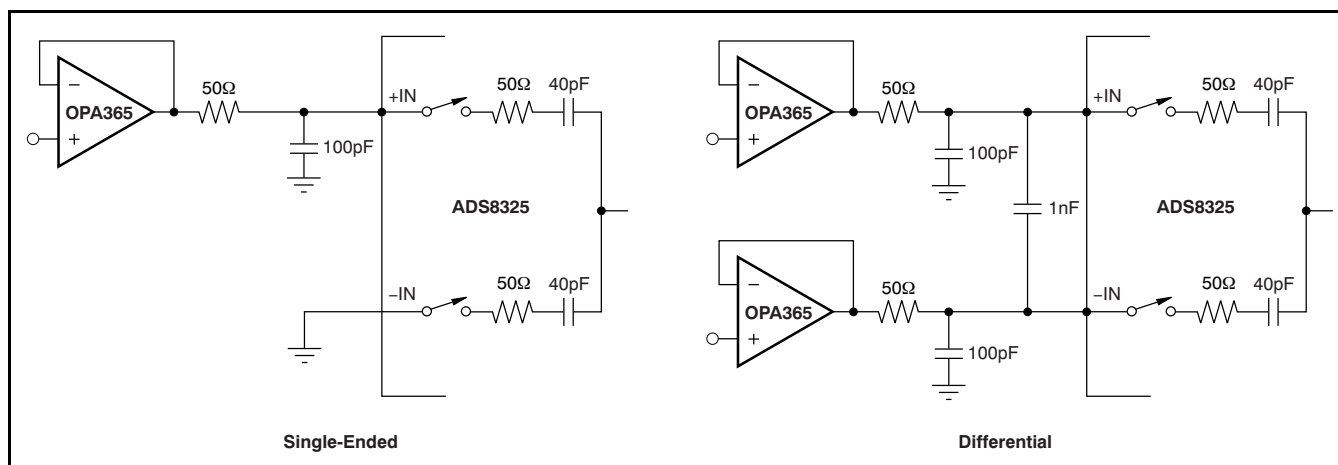

Figure 31. Single-Ended and Differential Methods of Interfacing the ADS8325
To minimize noise, low bandwidth input signals with lowpass filters should be used. In each case, care should be taken to ensure that the output impedance of the sources driving the $+IN$ and $-IN$ inputs are matched. Often, a small capacitor (20pF) between the positive and negative inputs helps to match their impedance. To obtain maximum performance from the ADS8325, the input circuit from Figure 31 is recommended.
- Changed Figure 31 17